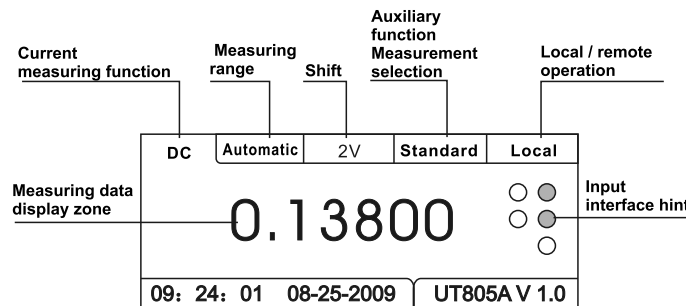

Figure 3
3.View of Display Interface (See Figure 3)